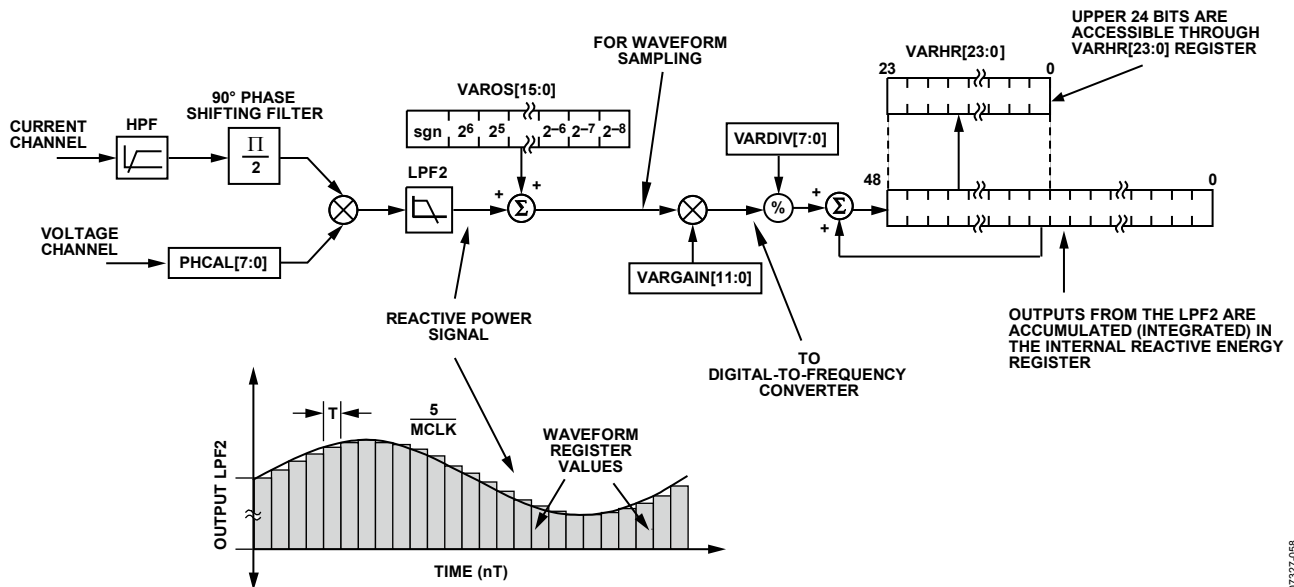

Figure 58. Reactive Energy Calculation
The instantaneous reactive power signal  $q(t)$  is generated by multiplying the voltage and current channels. In this case, the phase of the current channel is shifted by  $90^\circ$ . The dc component of the instantaneous reactive power signal is then extracted by a low-pass filter to obtain the reactive power information (see Figure 58).
Figure 58 shows the signal processing chain for the ADE7518 reactive power calculation. As explained in the Reactive Power Calculation section, the reactive power is calculated by applying a low-pass filter to the instantaneous reactive power signal. Note that, when reading the waveform samples from the output of LPF2, the gain of the reactive energy can be adjusted by using the multiplier and by writing a twos complement, 12-bit word to the VAR gain register (VARGAIN[11:0]). Equation 23 shows how the gain adjustment is related to the contents of the watt gain register.
The ADE7518 also incorporates a reactive power offset register (VAROS[15:0]). This is a signed, twos complement, 16-bit register that can be used to remove offsets in the reactive power calculation (see Figure 58). An offset may exist in the reactive power calculation due to crosstalk between channels on the PCB or in the IC itself. The offset calibration allows the contents of the reactive power register to be maintained at 0 when no power is being consumed.
The discrete time sample period (T) for the accumulation register in the ADE7518 is 1.22 μs (5/MCLK). As well as calculating the energy, this integration removes any sinusoidal components that may be in the active power signal. Figure 58 shows this discrete time integration or accumulation. The reactive power signal in the waveform register is continuously added to the internal reactive energy register.
As shown in Figure 58, the reactive power signal is accumulated in an internal 49-bit signed register. The reactive power signal can be read from the waveform register by setting the WAVMODE register (0x0D) and setting the WFSM bit in the Interrupt Enable 3 SFR (MIRQENH, 0xDB). Like the current and voltage channel waveform sampling modes, the waveform data is available at a sample rate of 25.6 kSPS, 12.8 kSPS, 6.4 kSPS, or 3.2 kSPS.